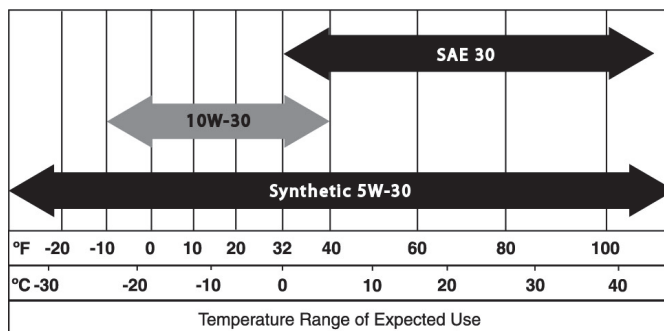

Figure 4-1: Recommended Oil Based on Temperature
7. Refill the engine with the proper recommended oil. For recommended oil, see Figure 4-1.